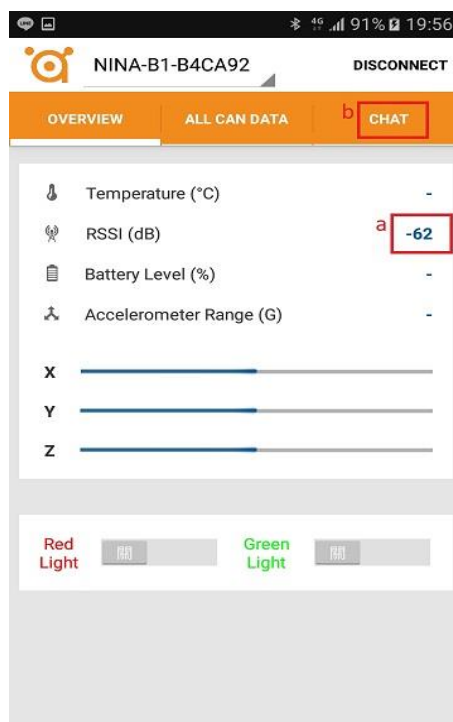

Figure 4
5. Waiting for RSSI value appearance (BLE signal checking) and then click “CHAT” tab button to read CAN bus data as Figure 4.